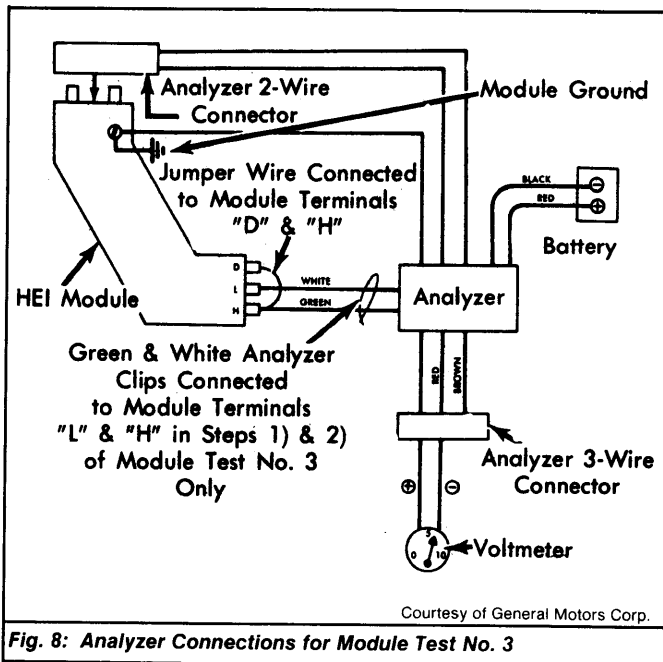

Fig. 8: Analyzer Connections for Module Test No. 3
1) Connect analyzer 2-pin connector to HEI module. Connect Green analyzer clip to terminal H and White clip to terminal L. Connect a jumper wire from terminal H to terminal D. Ground analyzer wire to HEI module. Connect analyzer to battery. See Fig. 8